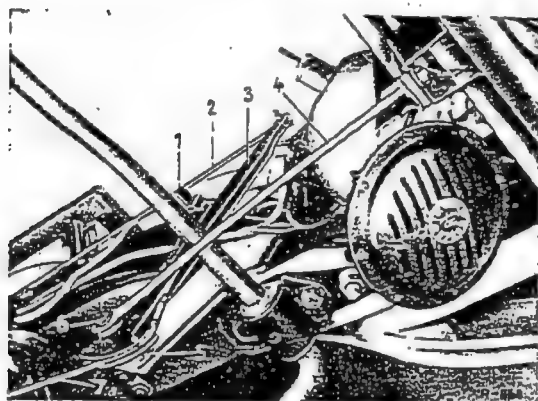

Fig. 42-18/4
1. Unscrew the wing nut (1) from the center brake cable (7) and remove (Fig. 42-18/4).